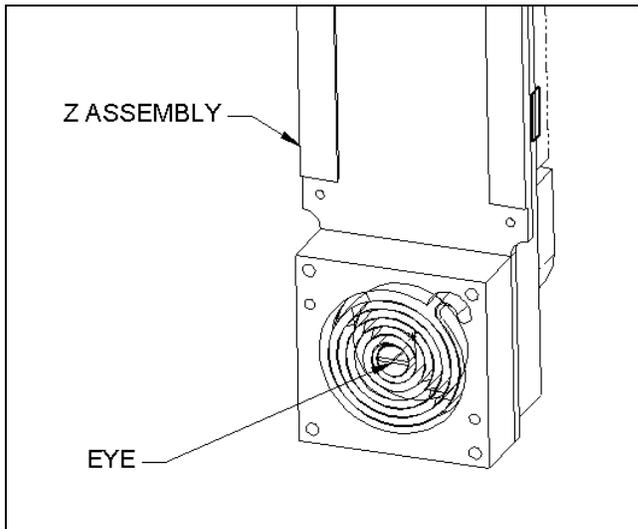

Figure 7-16 Spring Assembly
- 4 Remove the spring Retainer Assembly from the Drive (Figure 7-16).